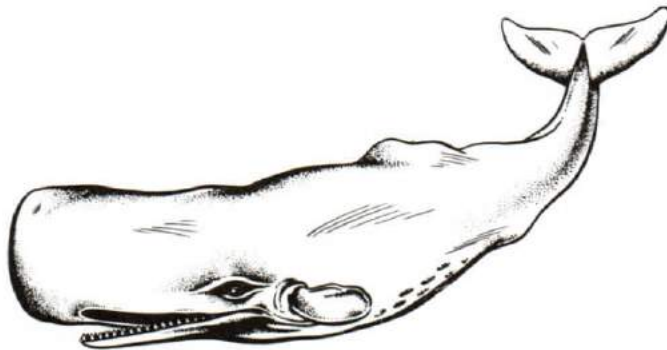

Figure 3-20
2. The whale is the largest mammal that has ever lived on earth. It has been known to grow up to 110 feet in length, which would put its weight at about 180,000 lbs. However, the normal whale you will encounter will probably be around 50 to 60 feet in length. The whale, like all other sea mammals, has to surface to breathe. While it is under water, which may be 20 minutes to a half hour, the whale holds its breath. See Figure 3-20.
2. La baleine est le plus grand mammifère qui ait jamais vécu sur notre planète. Certains spécimens ont atteint 110 pieds de long ce qui amène leur poids à 180,000 livres. La baleine normale que vous rencontrerez mesure environ 50 à 60 pieds de long. Comme tous les autres mammifères marins, la baleine doit faire surface pour respirer. Lorsqu'elle nage sous l'eau, la baleine retient sa respiration, ce qu'elle peut faire pendant 20 à 30 minutes (voir la figure 3-20).